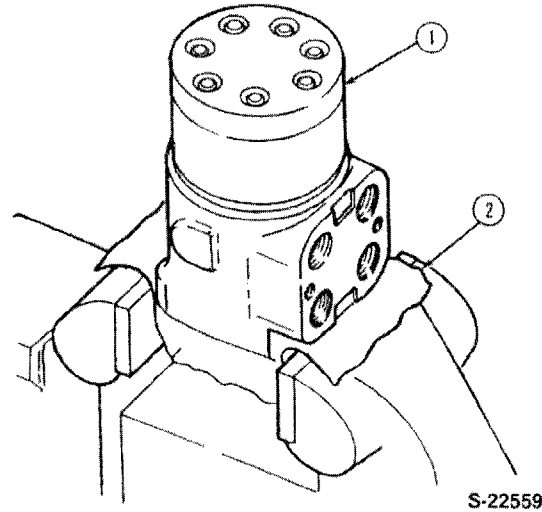

Figure 11
1. Place the control valve upside down in a vise, remove the retaining bolts and check the valve retainer screw, Figure 11.